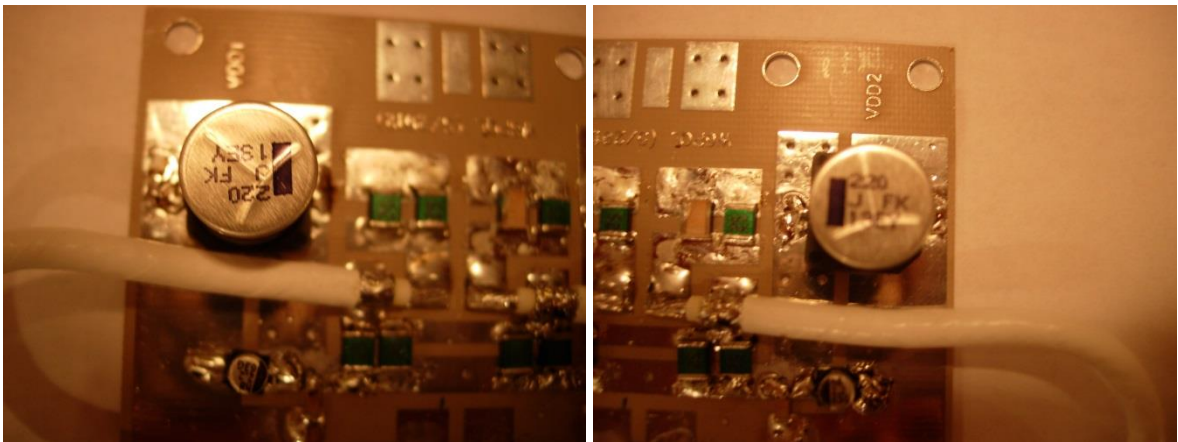

Figure 41: showing misplaced and damaged components. Note damaged SMT cap 2nd from right. LEFT: proper placement. RIGHT: improper placement.
1. This project was the first time I did work with SMT, and I had a couple of part positioning problems and broken components. Figure 41 shows two problems on the output board of the 2m, where there's lots of energy. To remove the broken cap, I used two soldering irons, one on each side of the part. I also repositioned the 220uf, that looked dangerously close to shorting.